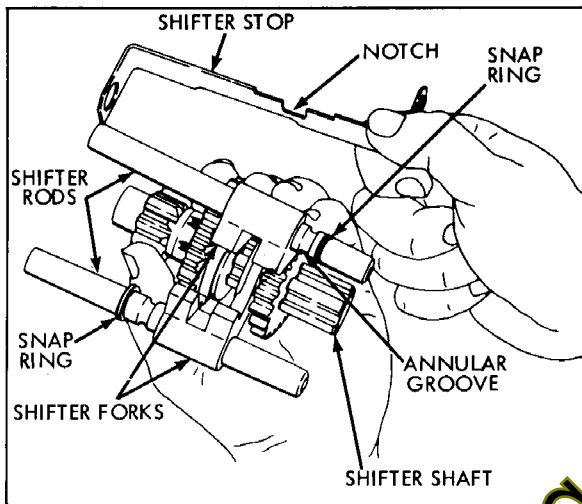
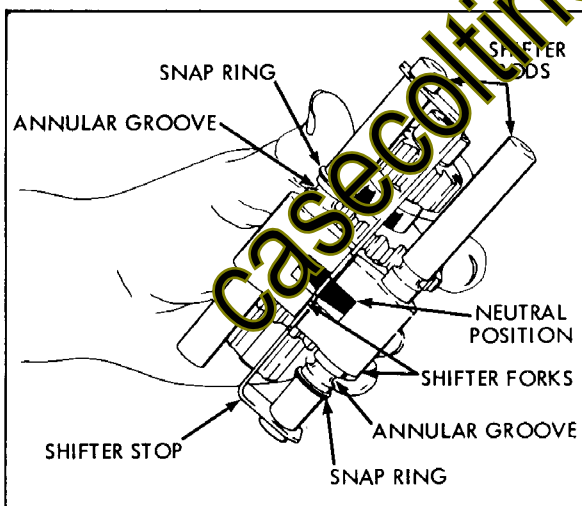

Figure 31 - Positioning Shifter Stop
Figure 32 - Final Assembly
Follow the illustrations in order. Figures 31, 30, 29, 28, 27, 26. Prior to disassembly compare the assembly with the illustrations. This will aid during the reassembly.
(4) When the shifter forks are properly assembled to the shifter rods and positioned in neutral, the ends of the notches in the shifter forks are in alignment. (Figure 32).
(d) After the shifter fork and rod assemblies have been engaged with the flanged gears allow the shifter rods to fly open in the hand and position the shifter stop. (Figure 31). The notch in the shifter stop is the guide for correct positioning. Align this notch with the corresponding notches in the shifter forks and insert the shifter stop. Move the shifter rods together, (Figure 32) and insert into the transaxle. Remember to squeeze the ends of the shifter rods to cause the assembly to bind and stay together.